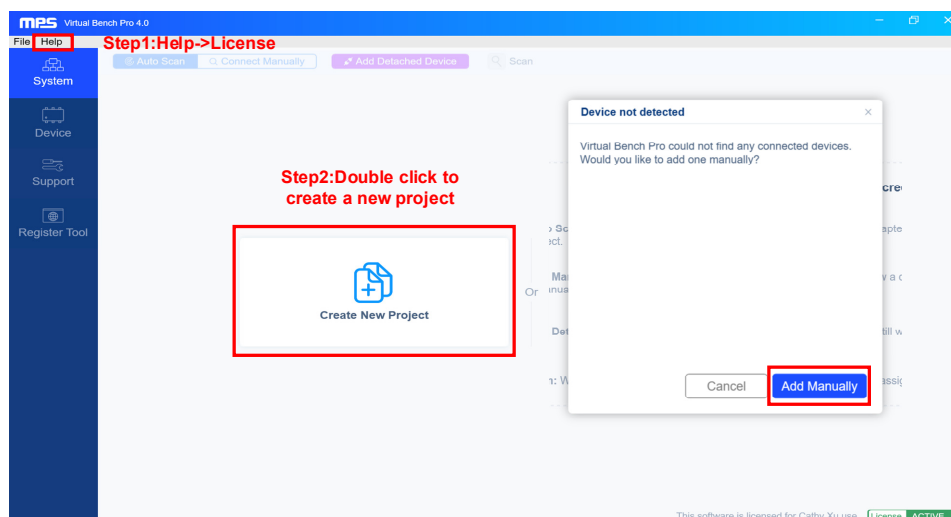

Figure 4: Creating a New Project in Virtual Bench Pro 4.0, Steps 1 and 2
- c. Once a license and key have been obtained, to start a new project, click “Create New Project,” then click “Add Manually” (see Figure 4 on page 5).